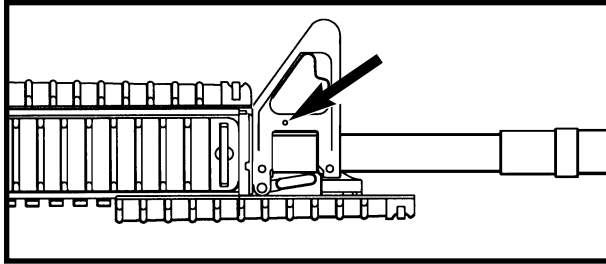

Figure 3-2-11 Removing the Gas Tube Pin
- (1) With the front sight adequately supported, carefully drive out the gas tube pin using a suitable punch. See Figure 3-2-11; and